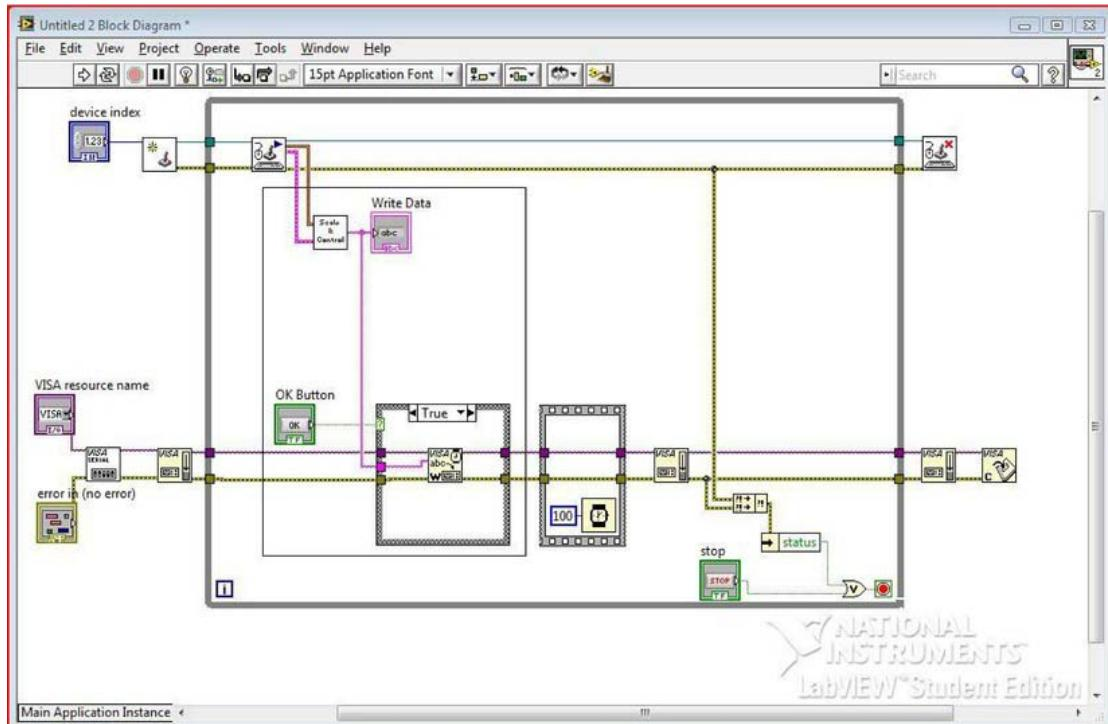

Figure 10-29. Add a SubVI to the Block Diagram that will scale the Xbox controller's values and dictate which direction to move the robot.
5. Finally, connect the string terminal on the Scale and Control Function to the write buffer terminal on the VISA Write Function. Figure 10-29 shows the completed SubVI.